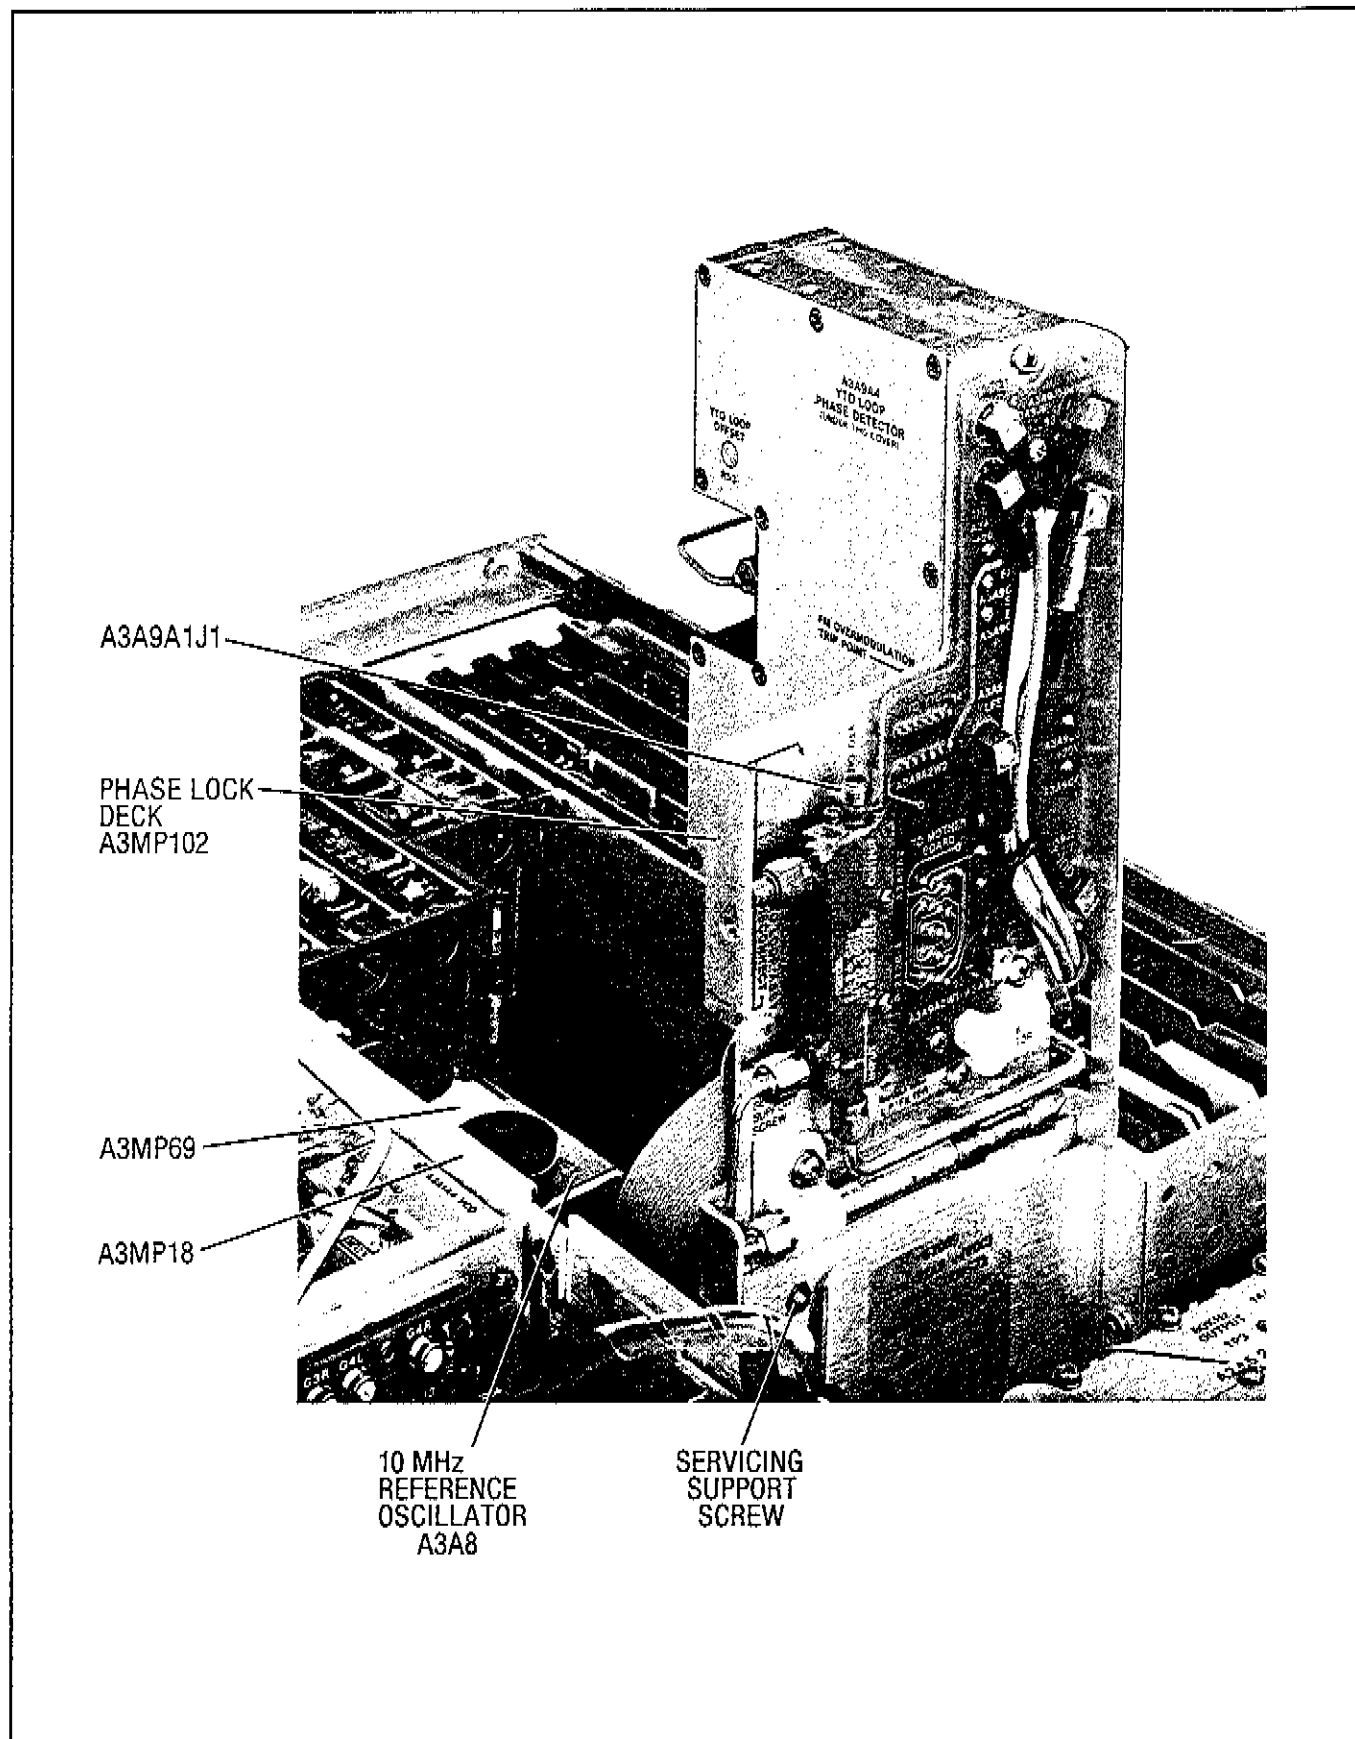

Figure 8-307. YTD Loop in Service Position
- d. Refer to Figure 8-307 for the following steps.
- c. Refer to Figure 8-307 for the following steps.